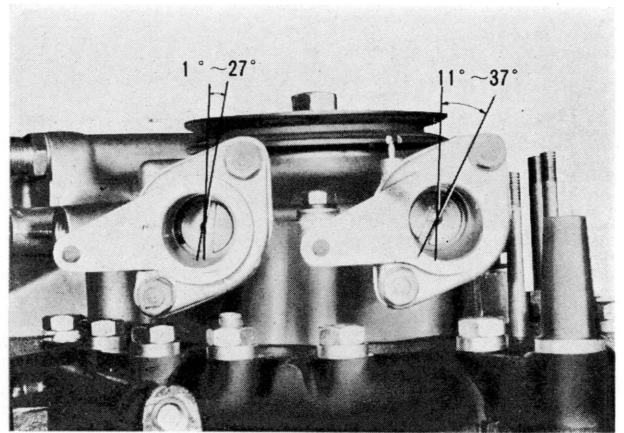

Fig. 1-117 Position of distributor sockets
2. Install the leading side distributor socket through the gasket to the front housing so that the groove on the upper side of the drive shaft points $1^{\circ}\sim 27^{\circ}$ to the right against the longitudinal axis of the engine, as shown in Fig. 1-117.